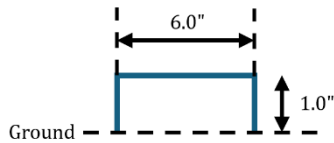
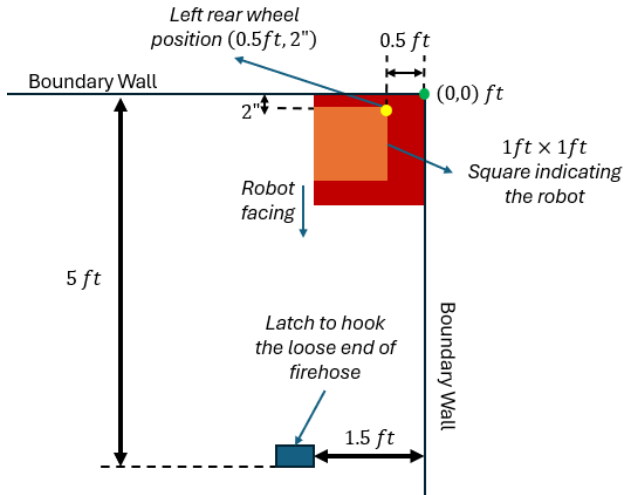

Figure 5. Fire hose latch (front view)
Figure 6. Placement of firehose latch (top view)
**Placement of firehose latch:** One of the contest requirements is that the robot be capable of navigating to a set location to start the firehose release. For this purpose, a latch/loop as shown in figure 5 will be placed in the game field. The robot should be capable of latching the loose end of the fire hose on to this to start the firehose release from the spool. Ideally, the robot should drive till the location of fire such that the other end of the firehose ends up in Band 1 next to the fire location. Furthermore, the location of this latch with respect to the potential robot starting location is illustrated in Figure 6 with cartesian coordinates to help teams plan. As shown in this figure the latch will be in the direction the robot faces at the start. Although the obstacle placement is not given in this document, there will be at least  $2\text{ feet}$  of straight-line path when the robot is approaching the latch from the start. It is to be noted that this a